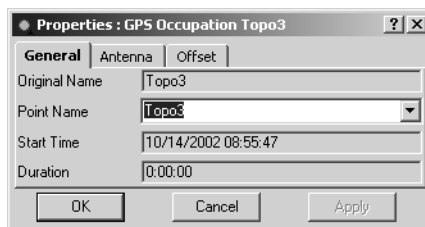

Figure 4-51. Point Properties – General Tab
- On the *Properties* dialog box, click the *General* tab (Figure 4-51).
3. On the *Properties* dialog box, click the *Antenna* tab (Figure 4-51).
3. On the *Properties* dialog box, click the *Offset* tab (Figure 4-51).
3. On the *Properties* dialog box, click the *General* tab (Figure 4-51).
3. On the *Properties* dialog box, click the *Observation* tab (Figure 4-51).
3. On the *Options* dialog box, the desired coordinate baseline (Figure 4-51).